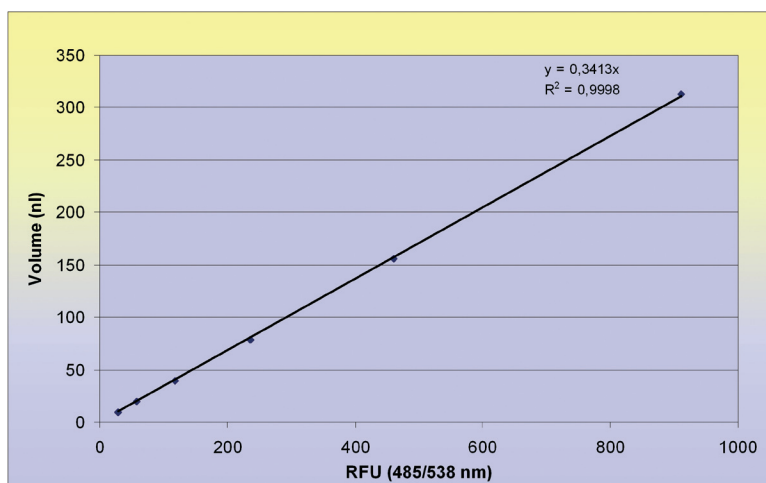

Figure 1. Standard curve for Finntip Pocket volume determination.
- Prepare the standard curve by plotting the average RFU against the volume. Use only the smallest volumes, see Fig. 1 for an example.